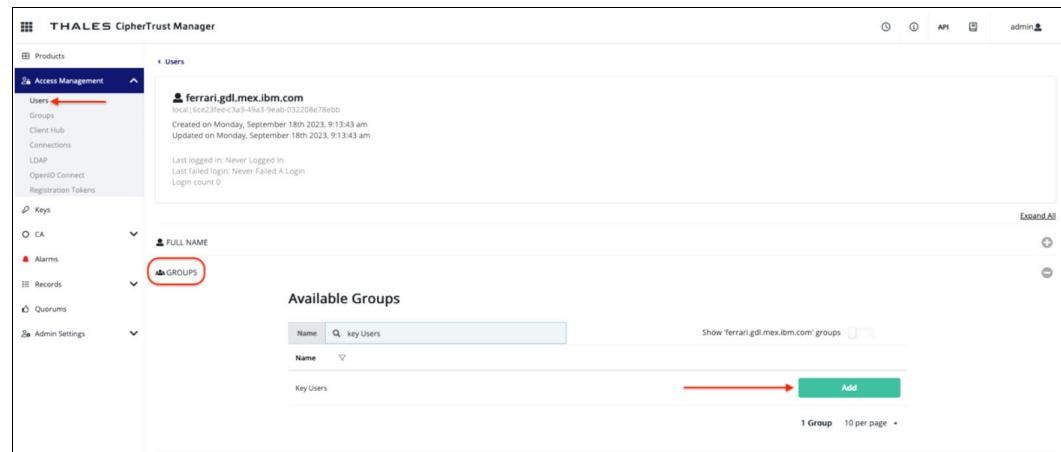

Figure J-33 Adding the key users group
- b. Add the Key Users group shown in Figure J-33.